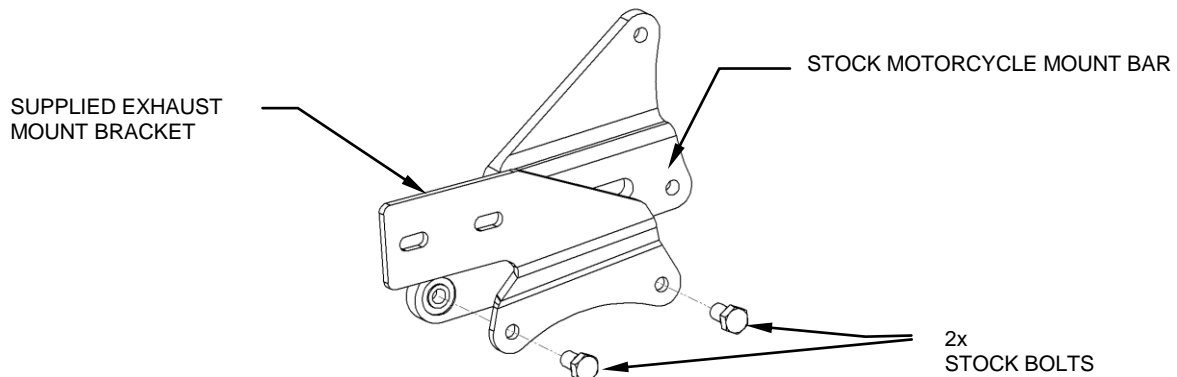

FIGURE 1
3. Remove the exhaust mount bracket from the box and mount it to the motorcycle mount bar using the stock nuts but **DO NOT TIGHTEN** at this time. (See Figure 1)